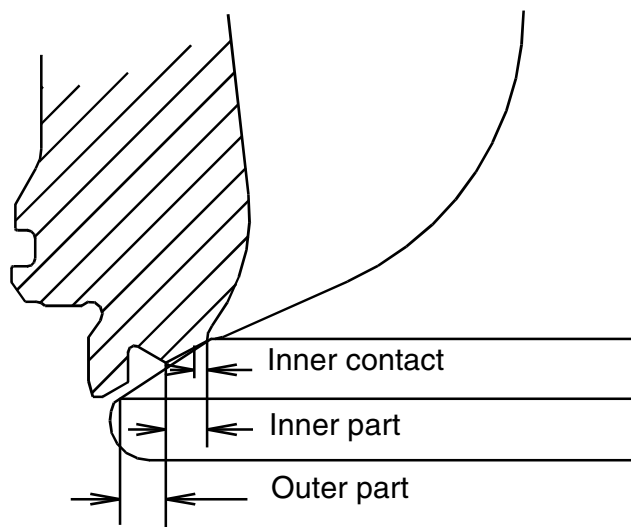

Fig. 1: Inner contact, and zone designation
Fig. 1 shows inner contact between the seats of the spindle and bottom piece, corresponding to slow/low-load/manoeuvring condition.
There must be no blow-by “tracks” across the inner part of the seat (Figs. 1 + 4, and Photo 1).
- Check the outer part of the seat for high temperature corrosion (*Fig. 1 and Photo 3*).